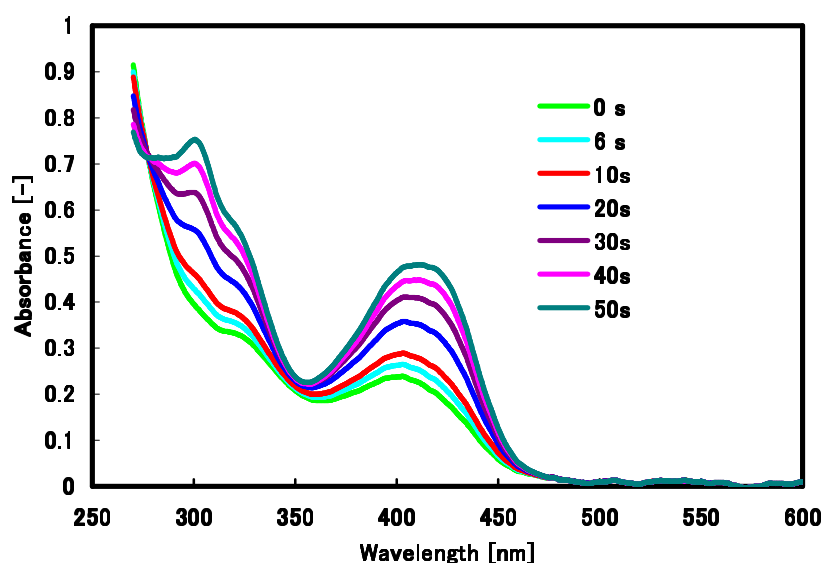

Figure 5. The absorbance of potassium hexacyanoferrate(II) and products. Electrolysis conditions: sweep from 0mV to 500mV.
1. Conditions: 20mM **potassium hexacyanoferrate (II)** in 1M KNO₃, working electrode: ITO, reference electrode: RE-3V, counter electrode: Pt wire, sweep from 0 mV to 500mV at scan rate of 0.01 V/s, 1M KNO₃ solution as the reference of absorbance. Figure 5 shows the change of absorbance due to oxidation of **potassium hexacyanoferrate (II)** at 0, 6, 10, 20, 30, 40, 50 sec, respectively.